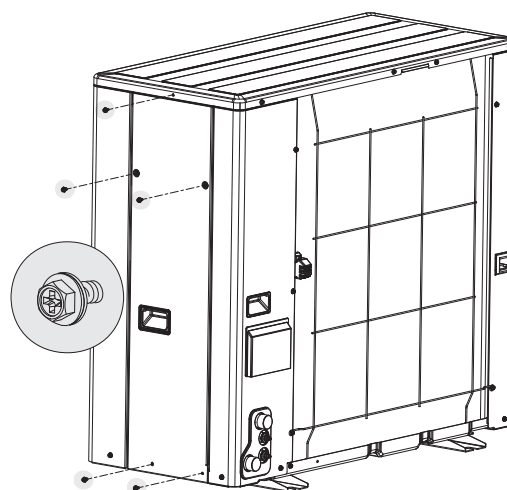

Figure 45. Heat Pump - Side Panel Removal
- Remove service panel, *Figure 45*, and inspect the following:
To access the refrigerant circuit pipework and the electrical components, the side panel can be taken off by removing the 5 screws shown in *Figure 45*.
4. Remove service access covers, refer to *Figure 45*.